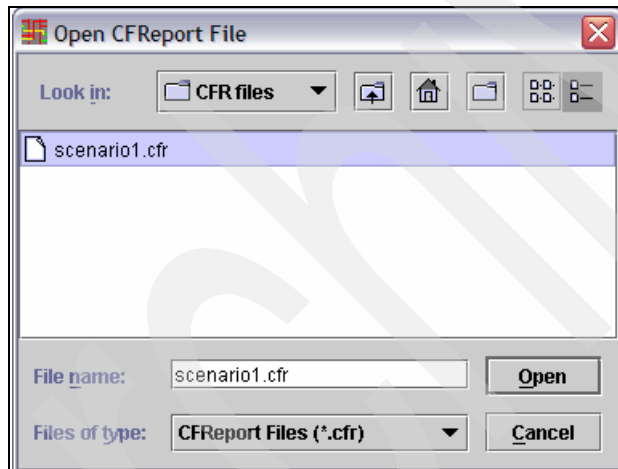
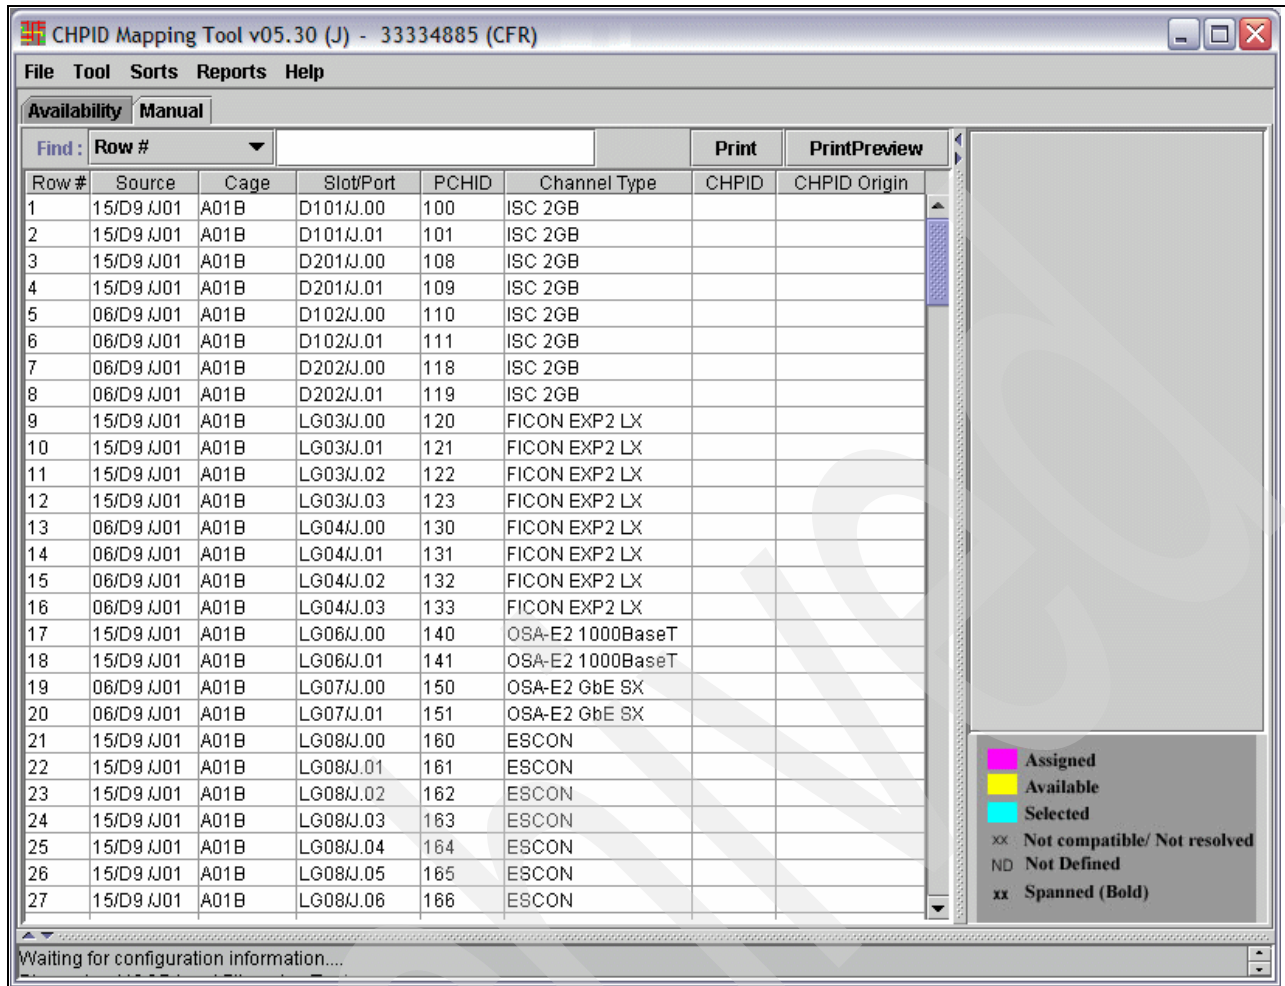

Figure 3-51 CMT - Open CFReport file
Figure 3-52 CMT - Imported CFReport Order file
4. Select the CFReport file to import and click **Open** (Figure 3-51). Information from the CFReport is displayed on the left-hand side of the window (Figure 3-52 on page 104).